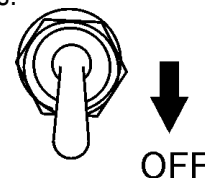

Figure 24. Idle Control Switch (OFF)
- Place idle control switch (Figure 24) in the **OFF** (down) position. This will allow the engine speed to run at about 3600 RPM's.
Placing the idle control switch in the **OFF** position (Figure 24) allows the engine to operate at a maximum speed of about 3600 RPM's.